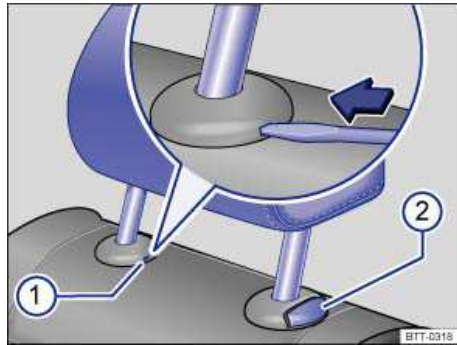

Fig. 63 Removing the rear head restraints.
- If necessary, press the flat blade of the screwdriver from the vehicle tool kit into the slit of the trim cap ⇒ fig. 63 \(1\) in the direction of the arrow and hold it in this position.
- At the same time press button (2) while a second person pulls out the head restraint completely.